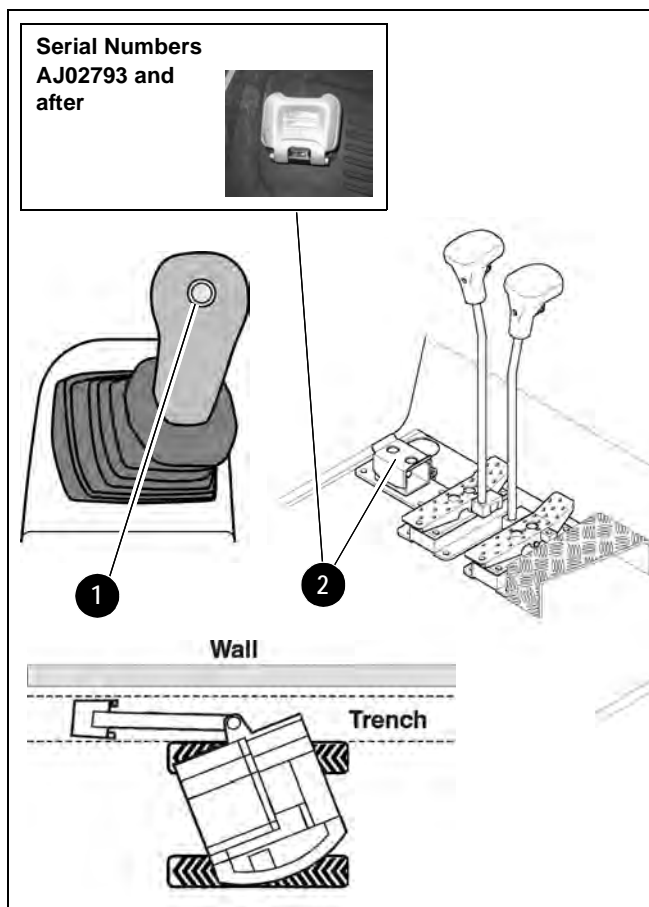

Figure 3-18 Boom Swivel
The boom can be swiveled, or swung, without moving the swing frame by pressing and holding the auxiliary hydraulic/changeover valve button (1) on top of the left hand joystick, and then pressing the auxiliary hydraulics pedal (2) left or right. See Figure 3-18. Pressing and holding the auxiliary hydraulic/changeover valve button (1) and pressing the auxiliary hydraulics pedal (2) to the left with your toe swivels the boom to the left. Pressing and holding the auxiliary hydraulic/changeover valve button (1) and pressing the auxiliary hydraulics pedal (2) to the right with your toe swivels the boom to the right.